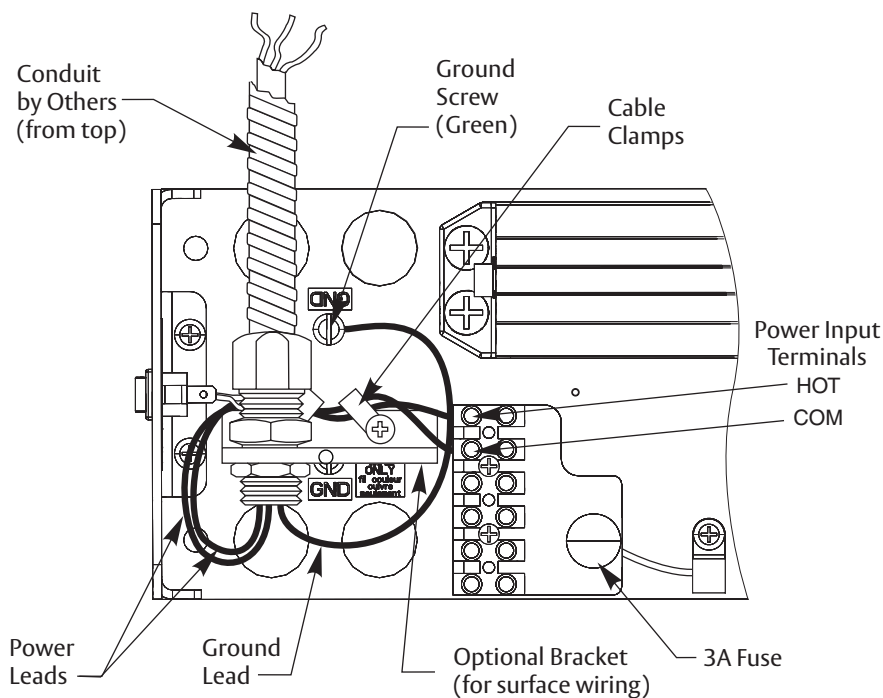

Figure 16
**Surface Wiring (Figure 16)**
3. After installing operator, attach incoming ground wire to backplate with ground screw as illustrated. (Figure 16)